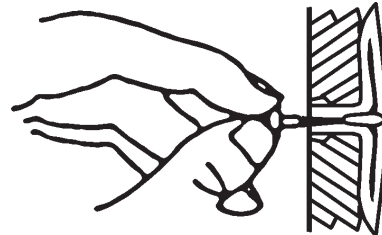

Figure 9- Popping Open Anchor Wing for Thin Walls
4. For thin walls, (1/2 -in. or less), insert key into wall anchor. Push key to “pop” open anchor wings (see Figure 9).